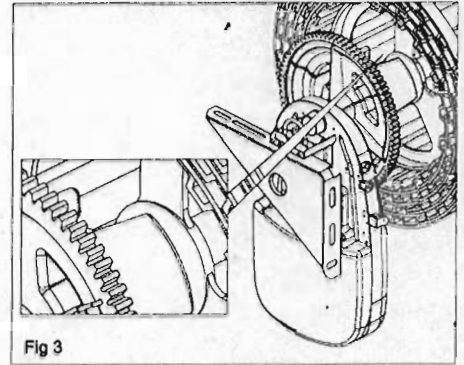
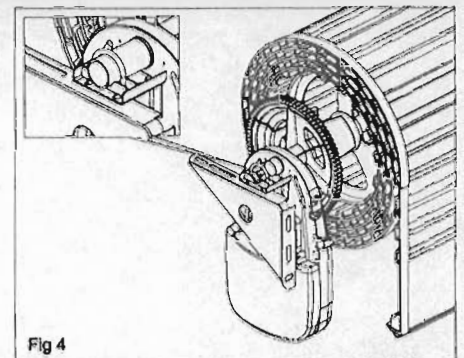

Fig 3
Fig 4
Slide drive unit onto shaft as shown (Figure 4) ensuring drive lugs engage fully with the narrowest spoke on drum wheel.
Ensure motor assembly is fully engaged with drum wheel spoke. Figure 3, Clamp shaft to mounting brackets using “U” Bolt supplied. See Figure 4. Ensure the door is correctly balanced and is not binding or sticking within vertical tracks.
N.B. If door continues to reverse before travelling 1.8 metres, disengage the door from the drive unit, see Figure 3. Check by moving door up and down manually that door is not binding, catching in tracks or out of balance e.g. not tensioned correctly.